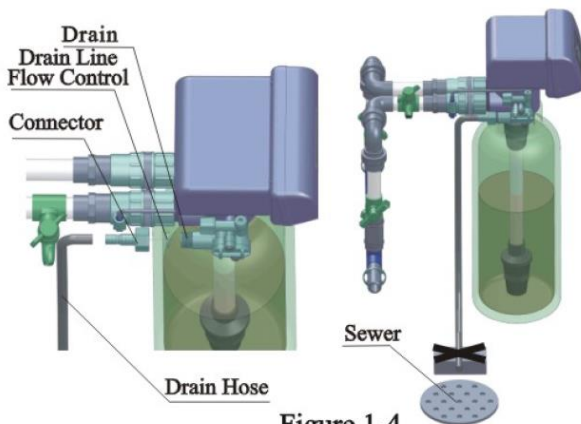

Figure 1-4
- If the valve belongs to time clock type, there are no step ② and ③
⑤ Install drain pipeline
a.As the Figure 1-4 shows, slide the drain hose connector into drain outlet.
d.Locate the drain hose well as the Figure1-4 show.
- Be sure not connect drain with sewer, and leave a certain space between them, avoid wastewater be absorbing to the water treatment equipment, such as showed in the Figure1-4.